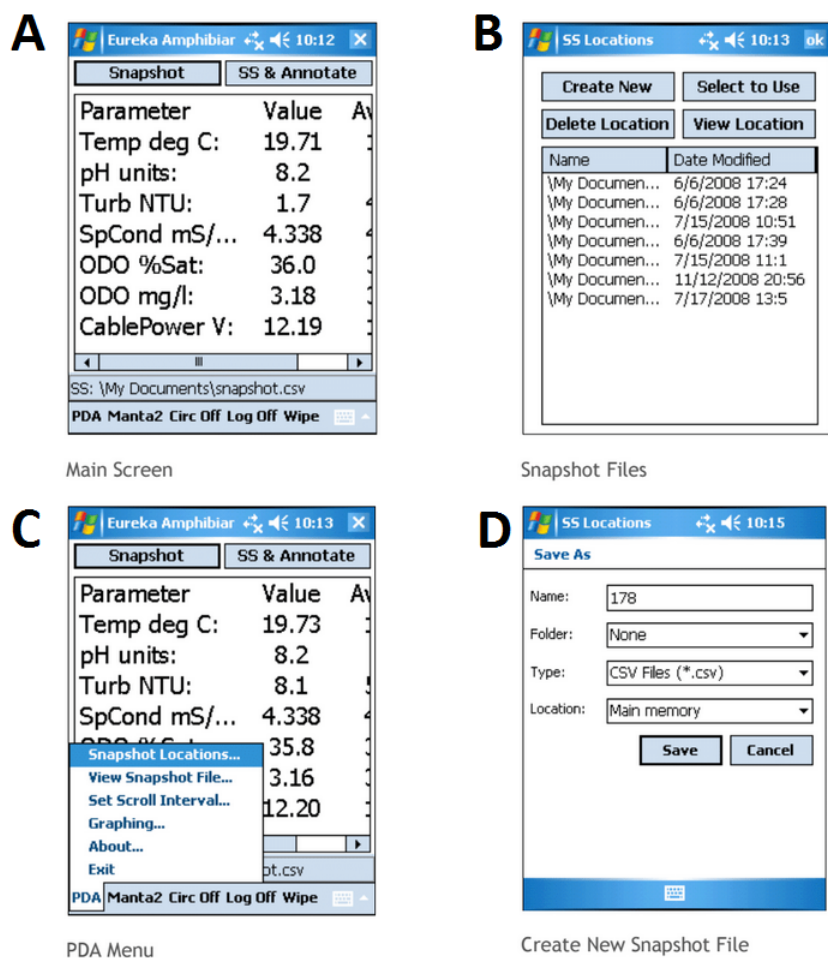

Figure 2: Amphibian Working Screens
**10.1** Connecting the Manta. Connect and power on the Manta to the Amphibian Portable PC as before. Adjust screen brightness using short-cut buttons **arrow up + P3** and **arrow up + P4**. When you open the Amp\_2.2.6, the Main screen will appear(A) (Figure 2). This is where you will see data readings. To log, or store, one line of data take a "snapshot" with the top left button (A). To locate snapshots, open the PDA menu in the bottom left corner and select "snapshot locations"(B). In the SS locations screen (C) you can edit your files or create a new one. When creating a new file (D), annotate using the guidelines in 10.5. To see data presented graphically, open the PDA menu and select "graphing" (B). To exit the program, again open the PDA menu and select "Exit."